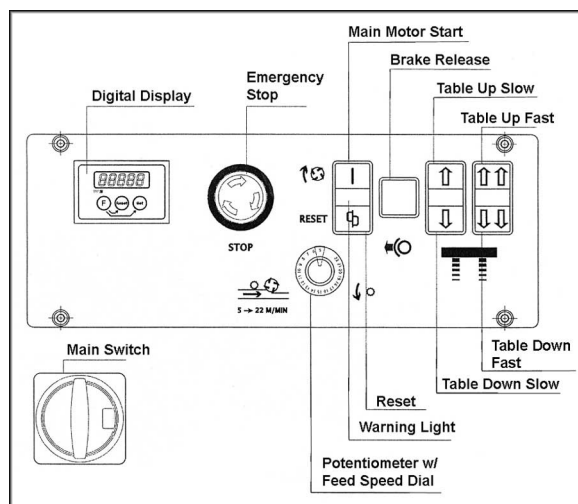

Figure 5
7. Test the rotation of the cutterhead. Turn on the main power switch (see Figure 5) and then the main motor switch (Figure 5). The pulley on the main motor (on the side near the electrical enclosure) should rotate counterclockwise. If it rotates clockwise, stop the machine with the red stop button (Figure 5).
Figure 5 shows the control panel for the planer.
3. The Reset button (Figure 5) will light up if the machine becomes overloaded. Press this button to re-start the machine.
1. Push brake release button (see Figure 5). The brake release light will come on.
8. Lower the hood and reconnect power to the machine. Press the brake release button (Figure 5). The warning light will go out.